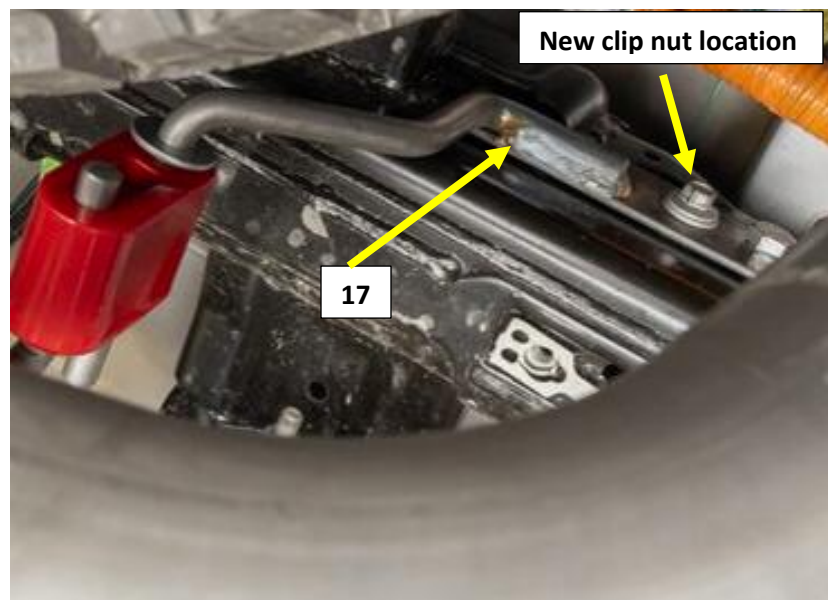

Figure.12
Note: Standard models may already be in the correct location, PowerBoost clip nuts will move from the bottom of the frame rail to directly above and to the inside of the frame rail as shown. See **Fig.12** as reference.
3. Install the 535HA (17) frame hanger on to the inside Left frame rail using the OEM Mounting bolt. **Fig.12**